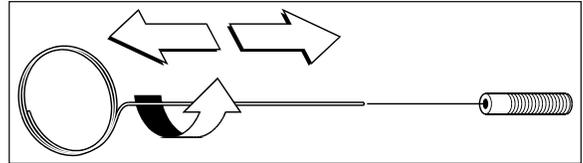

Figure 18 - Use Wire to Remove Debris
- d. Use the wire included in the kit or a small paper clip (Figure 18) to free any foreign material clogging or restricting the nozzle.